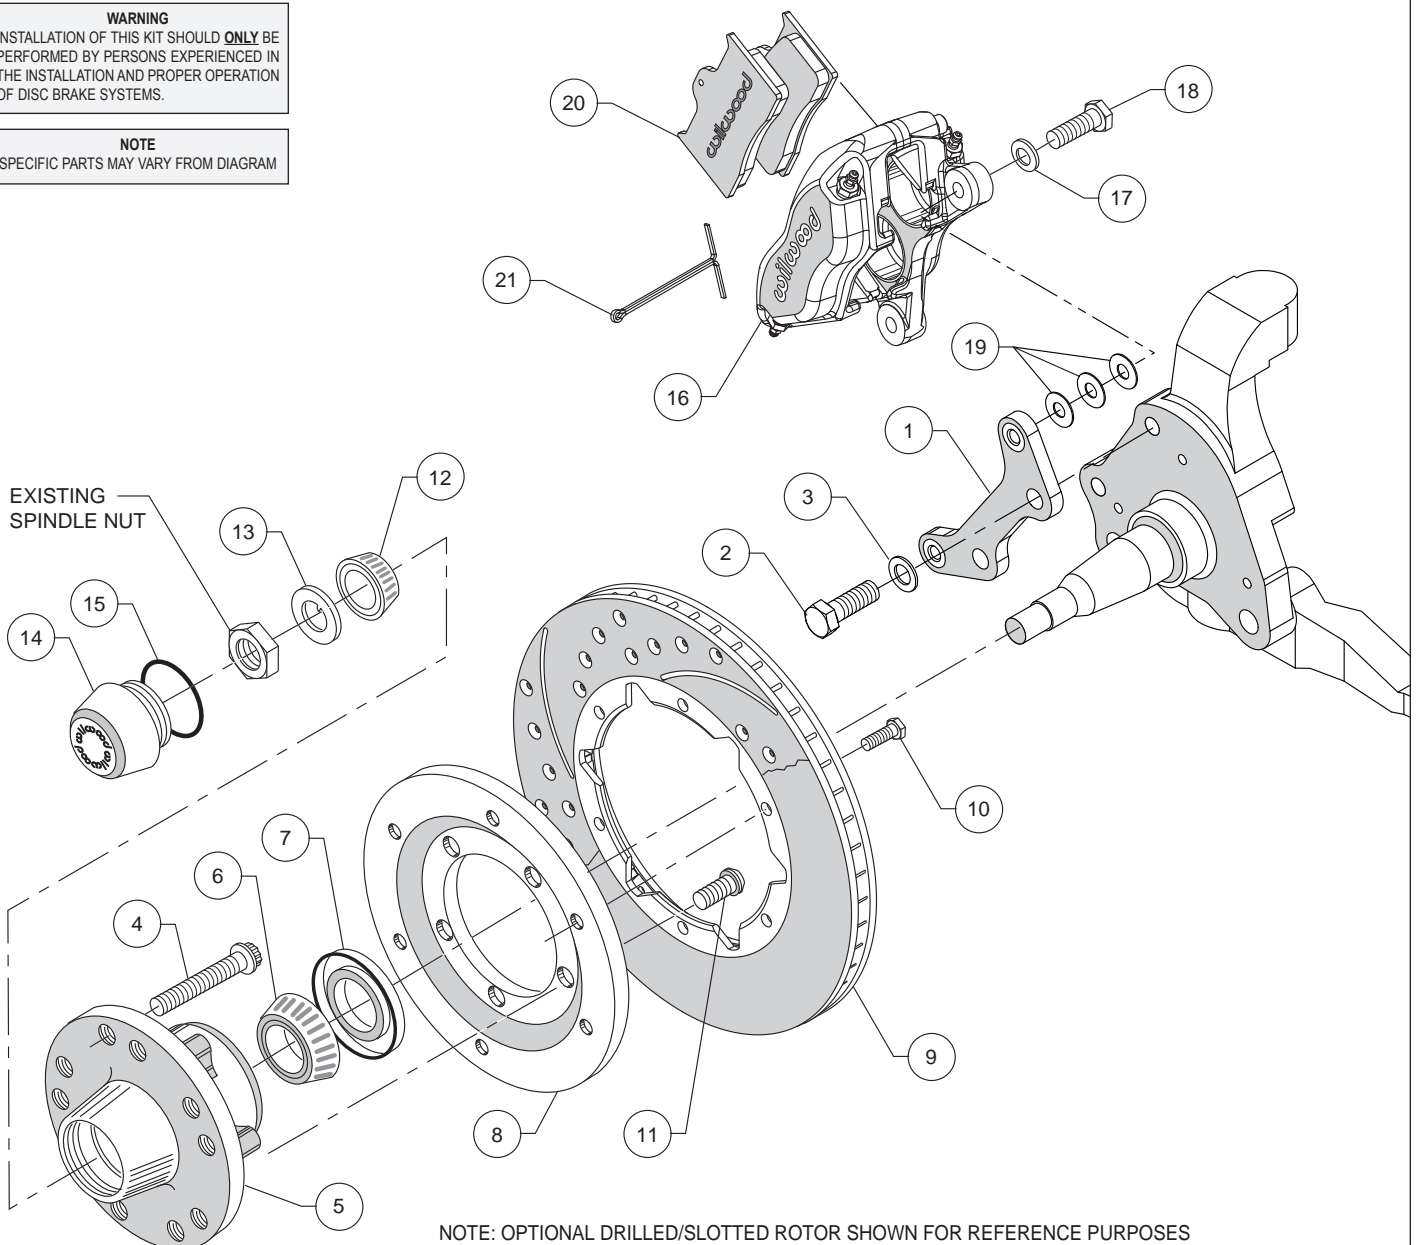
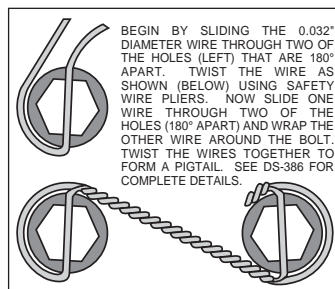
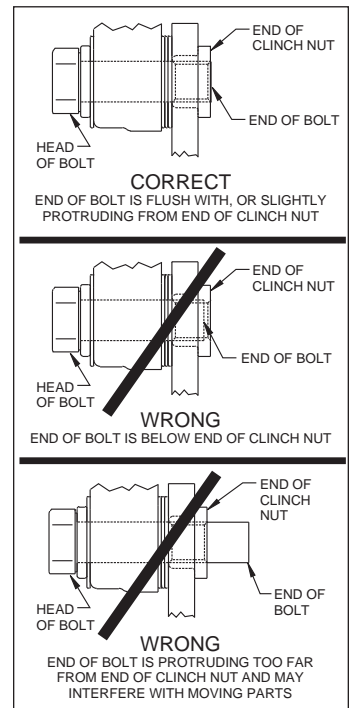

Figure 1. Typical Installation Configuration
Figure 3. Safety Wire Diagram
Figure 4. Clinch Nut Engagement Diagram
Assembly Instructions (numbers in parenthesis refer to the parts list, on the preceding page and Figure 1): **CAUTION: All mounting bolts must fully engage clinch nuts.** Be sure to check that all bolts are either flush or protruding through flanged side of clinch nut after shiming, Figure 4.
- Align caliper mounting bracket (1) with the corresponding holes, to the face of the spindle. Attach using bolts (2), and washers (3), as shown in Figure 1 and Photo 1. Temporarily tighten the mounting bolts. Ensure that the flanged heads of the clinch nuts in the bracket are facing outboard, Photo 1. **NOTE: The bracket must fit squarely against the mounting points on the spindle.** Inspect for interference from casting irregularities, machining ridges, burrs, etc. Remove bolts one at a time, apply red *Loctite*® 271 to threads and torque to 77 ft-lbs.
- Install the grease seal (7) by pressing into the backside of the hub (5), flush with the end of the hub, Photo 3.
- Orient the rotor (9) and the rotor adapter (8) as shown in Figure 1 and Photo 4. Attach the rotor to the adapter using bolts (10). Using an alternating sequence, apply red *Loctite*® 271 to the threads, and torque to 180 **in-lb**. Safety wire bolts (10) using standard 0.032 inch diameter stainless steel safety wire as shown in Figure 3. Please refer to Wilwood's data sheet DS-386 (available at www.wilwood.com/Pdf/DataSheets/ds386.pdf) for complete safety wire installation instructions.
- Mount the adapter/rotor assembly (8/9) to the hub (5) using bolts (11), as shown in Figure 1 and Photo 5. Using an alternating sequence, apply red *Loctite*® 271 to the threads, and torque to 55 ft-lb.
- NOTE:** Please reference the caution statement at the beginning of the assembly instructions. Mount the caliper (16) onto the caliper mounting bracket (1) using bolts (18) and washers (17), as shown in Figure 1. Initially place three .035" thick shims (19) on each bolt between the caliper and the bracket, Photo 8. Temporarily tighten the mounting bolts and view the rotor (9) through the top opening of the caliper. The rotor should be centered in the caliper, Photo 9. If not, adjust by adding or subtracting shims between the bracket and the caliper. Always use the same amount of shims on each of the two mounting bolts. **NOTE:** The end of each bolt must be flush with or slightly protruding from the head of the clinch nut, as shown in Figure 4. If necessary place spare shims between washer (17) and caliper mounting ear to achieve the proper clinch nut engagement. Once the caliper alignment and clinch nut engagement are correct, remove the bolts one at a time, apply red *Loctite*® 271 to bolt threads, and torque to 40 ft-lb. Safety wire the bolts as shown in Figure 3.